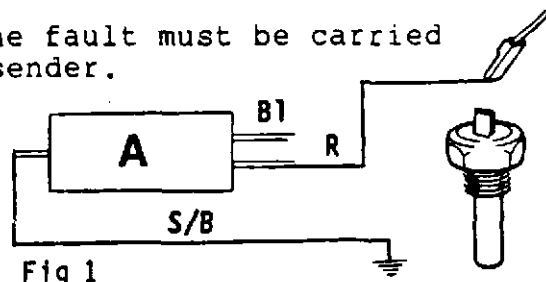
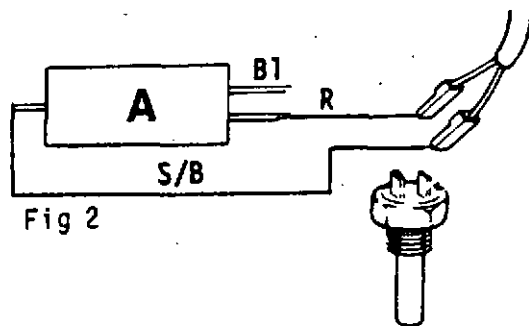

Fig 1
Fig 2
Connect the test resistor (A) according to fig. 1 (single pole system) or fig 2 (for double pole system).